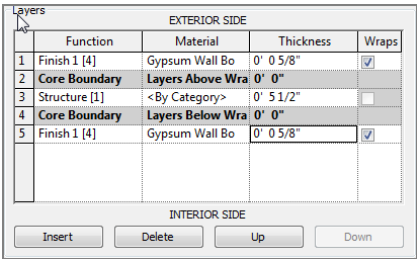

FIGURE 16.4: Adding a 5/8" gypsum layer to the interior side of the wall
- 10. Click the Down button, as shown in Figure 16.4. It's located below the Layers area all the way to the right. Your new layer becomes 5.
- 15. Change Thickness to 5/8" (13mm). Your Layers field should resemble Figure 16.4.